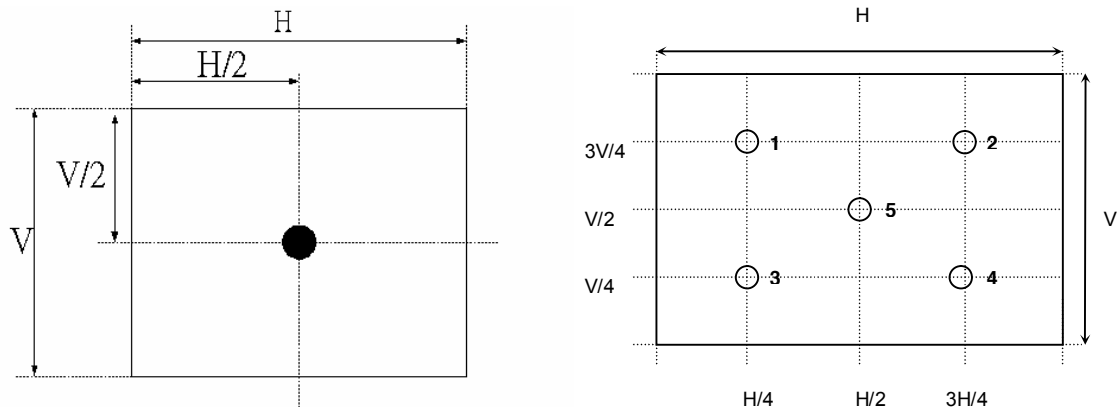

Fig.4-2 Optical measurement point
2. Surface luminance is luminance value at point 1 across the LCD surface 50cm from the surface with all pixels displaying white. From more information see Fig. 4-2. When $V_{DDB} = 24V$, $I_{DDB} = 6.3A$. $L_{WH} = L_{on1}$, Where L_{on1} is the luminance with all pixels displaying white at center 1 location.